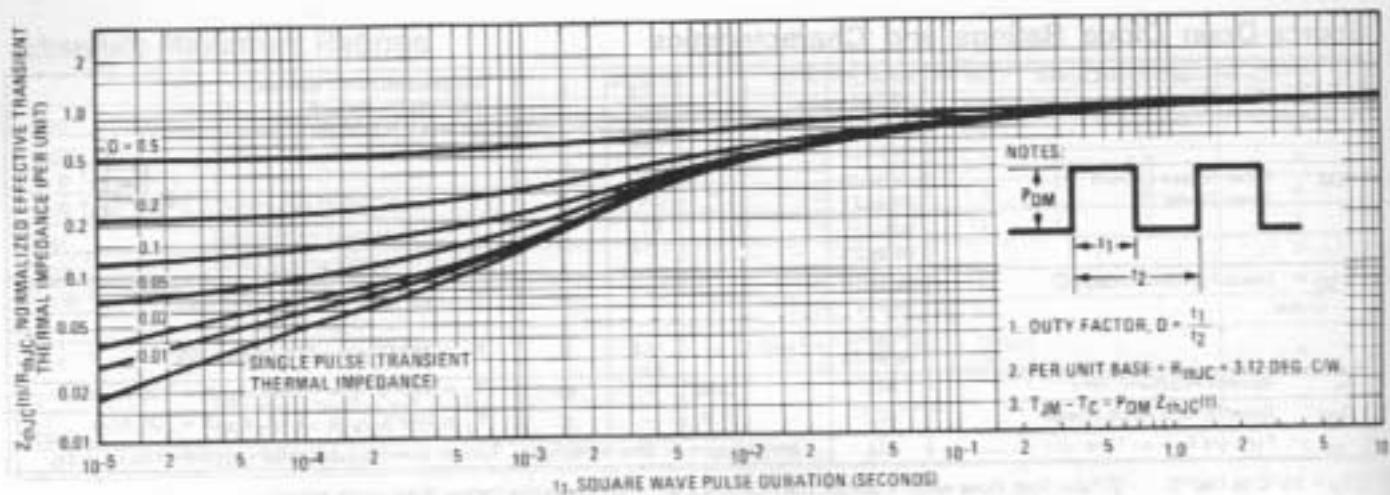

Fig. 5 – Maximum Effective Transient Thermal Impedance, Junction-to-Case Vs. Pulse Duration
①  $T_J = 25^\circ\text{C}$  to  $150^\circ\text{C}$ . ② Pulse Test: Pulse width < 300  $\mu$ s, Duty Cycle < 2%.
③  $K_W = ^\circ\text{CW}$   $W/K = W^\circ\text{C}$
④ Repetitive Rating: Pulse width limited by max. junction temperature. See Transient Thermal Impedance Curve (Fig. 5).